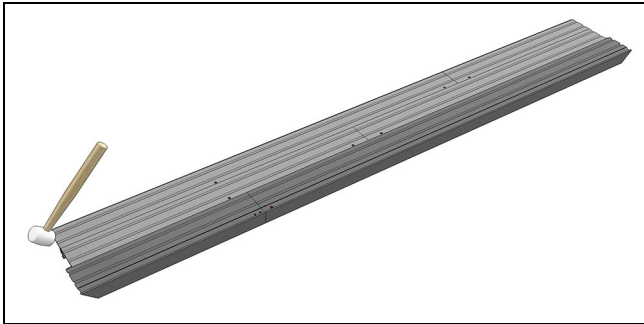

Figure 33
5. Press the splice sections together and seat with a rubber mallet. See Figure 33.